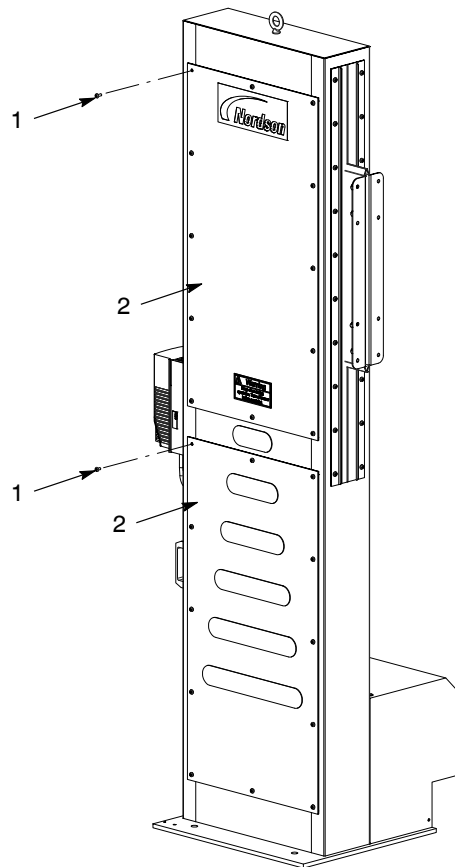
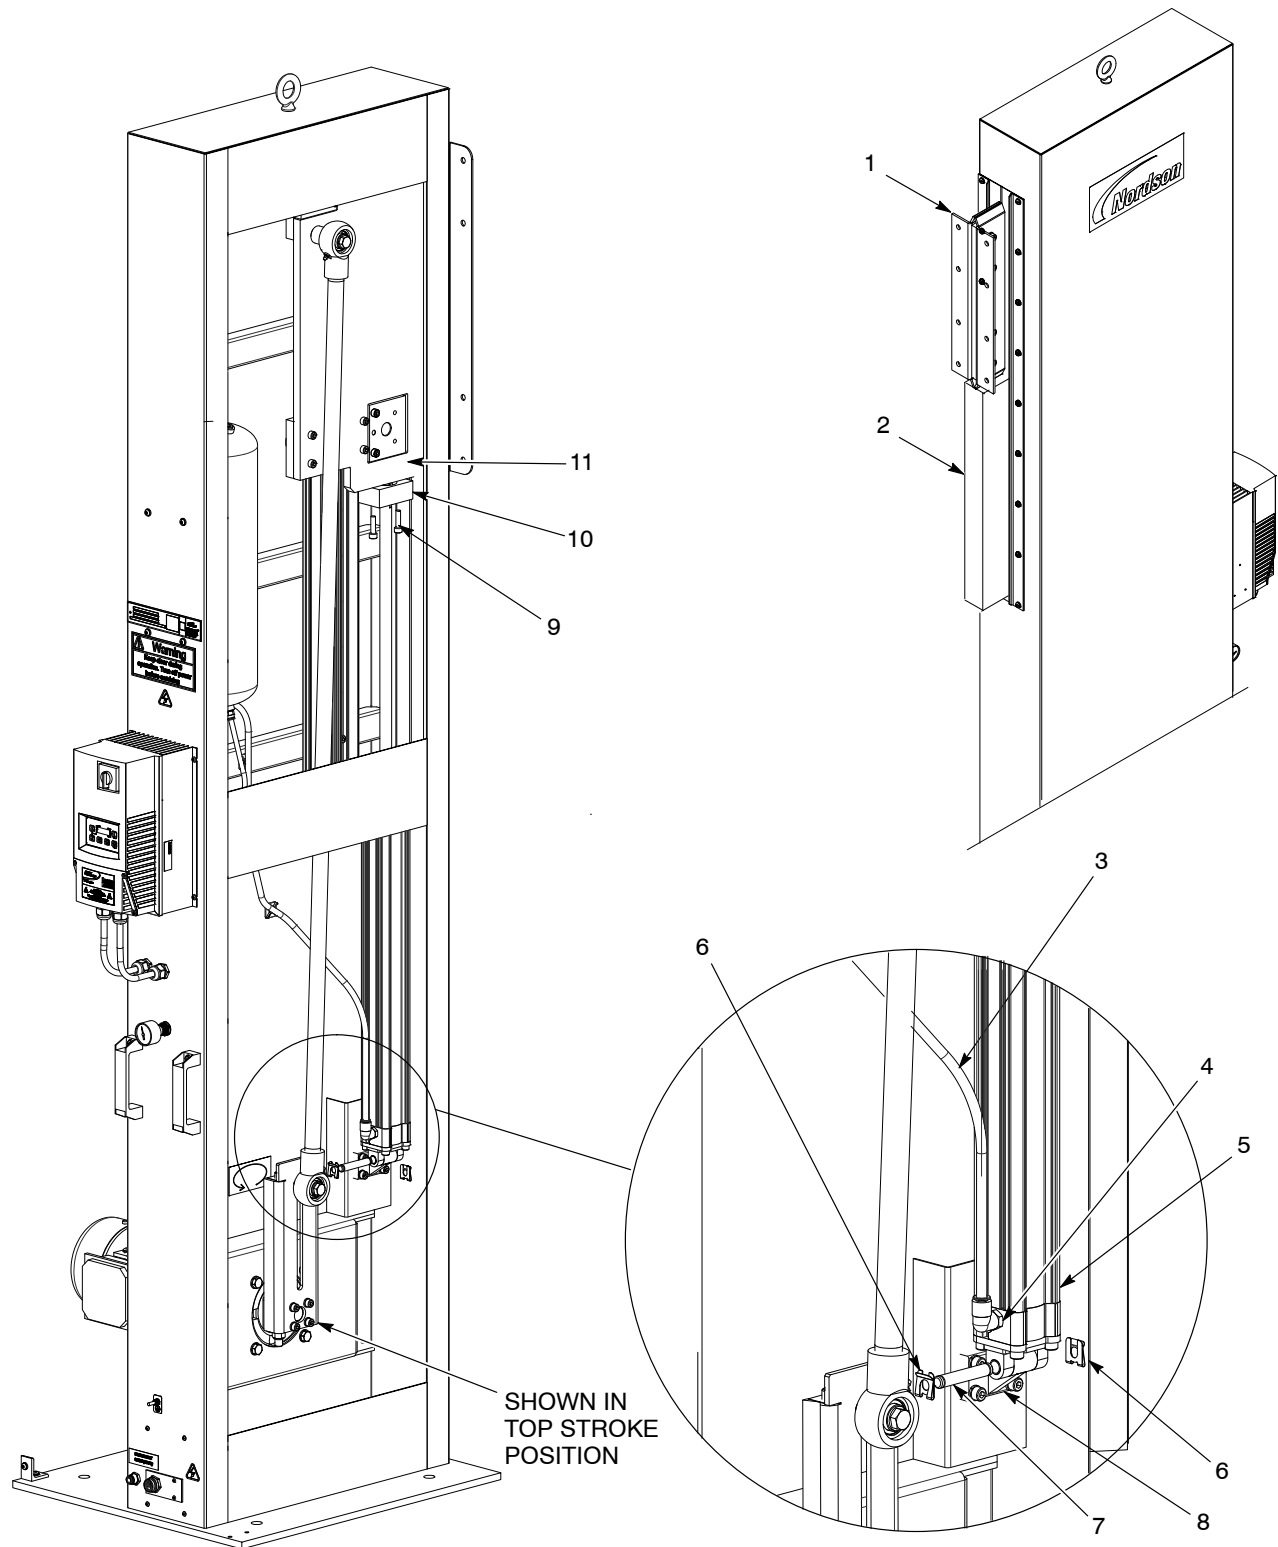

Figure 1 Removing the Panels
Figure 6 Installing the Air Cylinder
See Figure 1. Remove the panel screws (1) from the panels (2).
1. See Figure 6. Move the gun mounting plate assembly (1) to the top stroke position. Use a block (2) as shown to secure the gun mounting plate assembly (1).
2. Install the upper part of the air cylinder (5) securing the rod end mount (10) to the gun mount plate (11) using the two rod end mount screws (9).
3. Secure the lower part of the air cylinder by using the pin (7) and clips (6).
4. Connect the airline (3) to the air cylinder fitting (4).
5. Move the gun mounting plate assembly (1) to the bottom stroke position by carefully removing the block (2). The gun mounting plate assembly should drift downward.
6. See Figure 1. Install the panels with the panel screws.